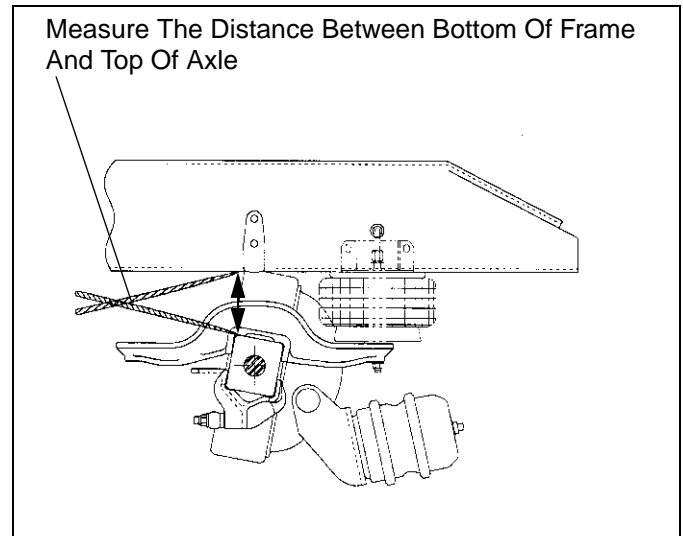

Figure 17-6
3. Measure the distance from the bottom of the frame rail to the top of the axle with the aid of calipers or dividers. See Figure 17-6.